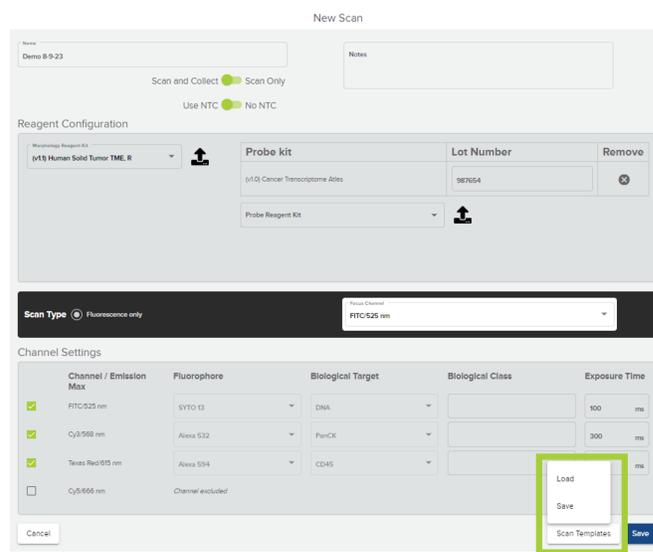

Figure 22: Save configuration as scan template.
2. The Scan Configuration window opens (Figure 22). Enter the parameters to make up the template. (Values can be changed when loading and using the template.)
3. Click **Scan Templates**, then **Save** (Figure 22).
1. When the Scan Configuration window opens, select **Scan Templates**, then **Load** (Figure 22).